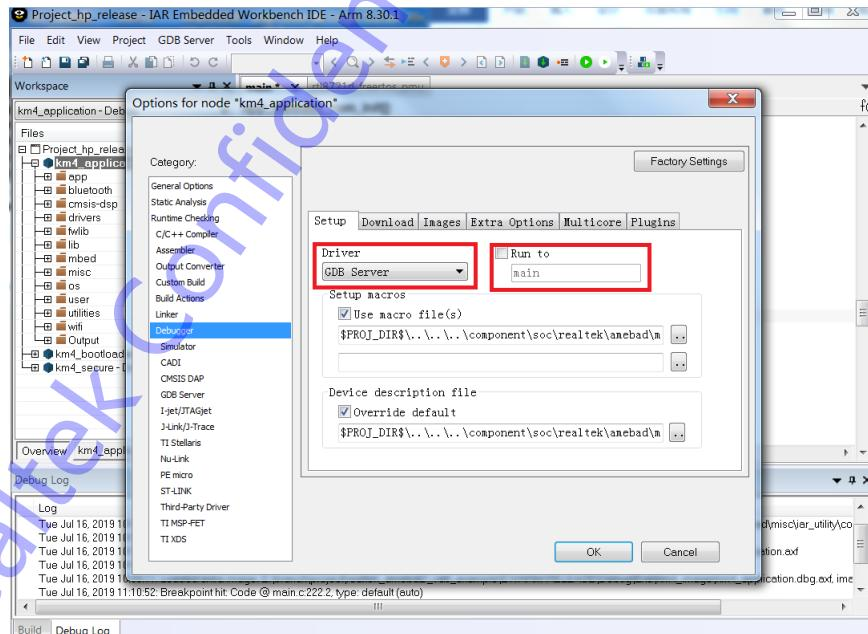

Fig 6-15 RLX Probe setup
(3) If using RLX Probe, check whether the RLX Probe setting is correct.
- Click **Project > Options > Debugger > Setup > Driver**, choose “GDB Server” and don not choose “Run to”, as Fig 6-15 shows.